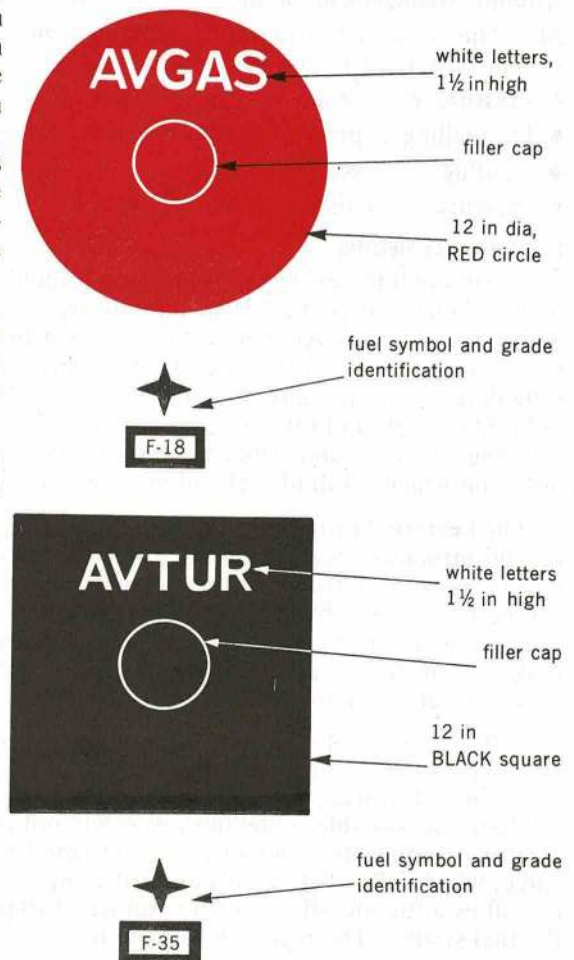

Fig 6.1.7 Examples of filler point markings
20. **Filling with correct grade fuel.** Pressure refuelling systems are used for turbine-engined aircraft only. The aircraft tanks are replenished through a special connector and all refuellers with pressure hoses to match the aircraft connector should contain aviation turbine fuel. However, not all turbine-engined aircraft are pressure refuelled and some early turbine-engined aircraft (*ie* Canberra and Jet Provost) remain in service with open orifice fuel systems. Therefore, the type of refuelling hose must not be taken as a proof of the type of fuel in the bowser. A pressure refueller will contain aviation turbine fuel (AVTUR), but the trigger nozzle refueller may be filled with aviation gasoline (AVG AS) or turbine fuel. The only sure way of using the right fuel is to match the aircraft fuel markings with the markings on the bowser. Open line refuelling points on flying training aircraft are marked as shown in Fig 6.1.7.